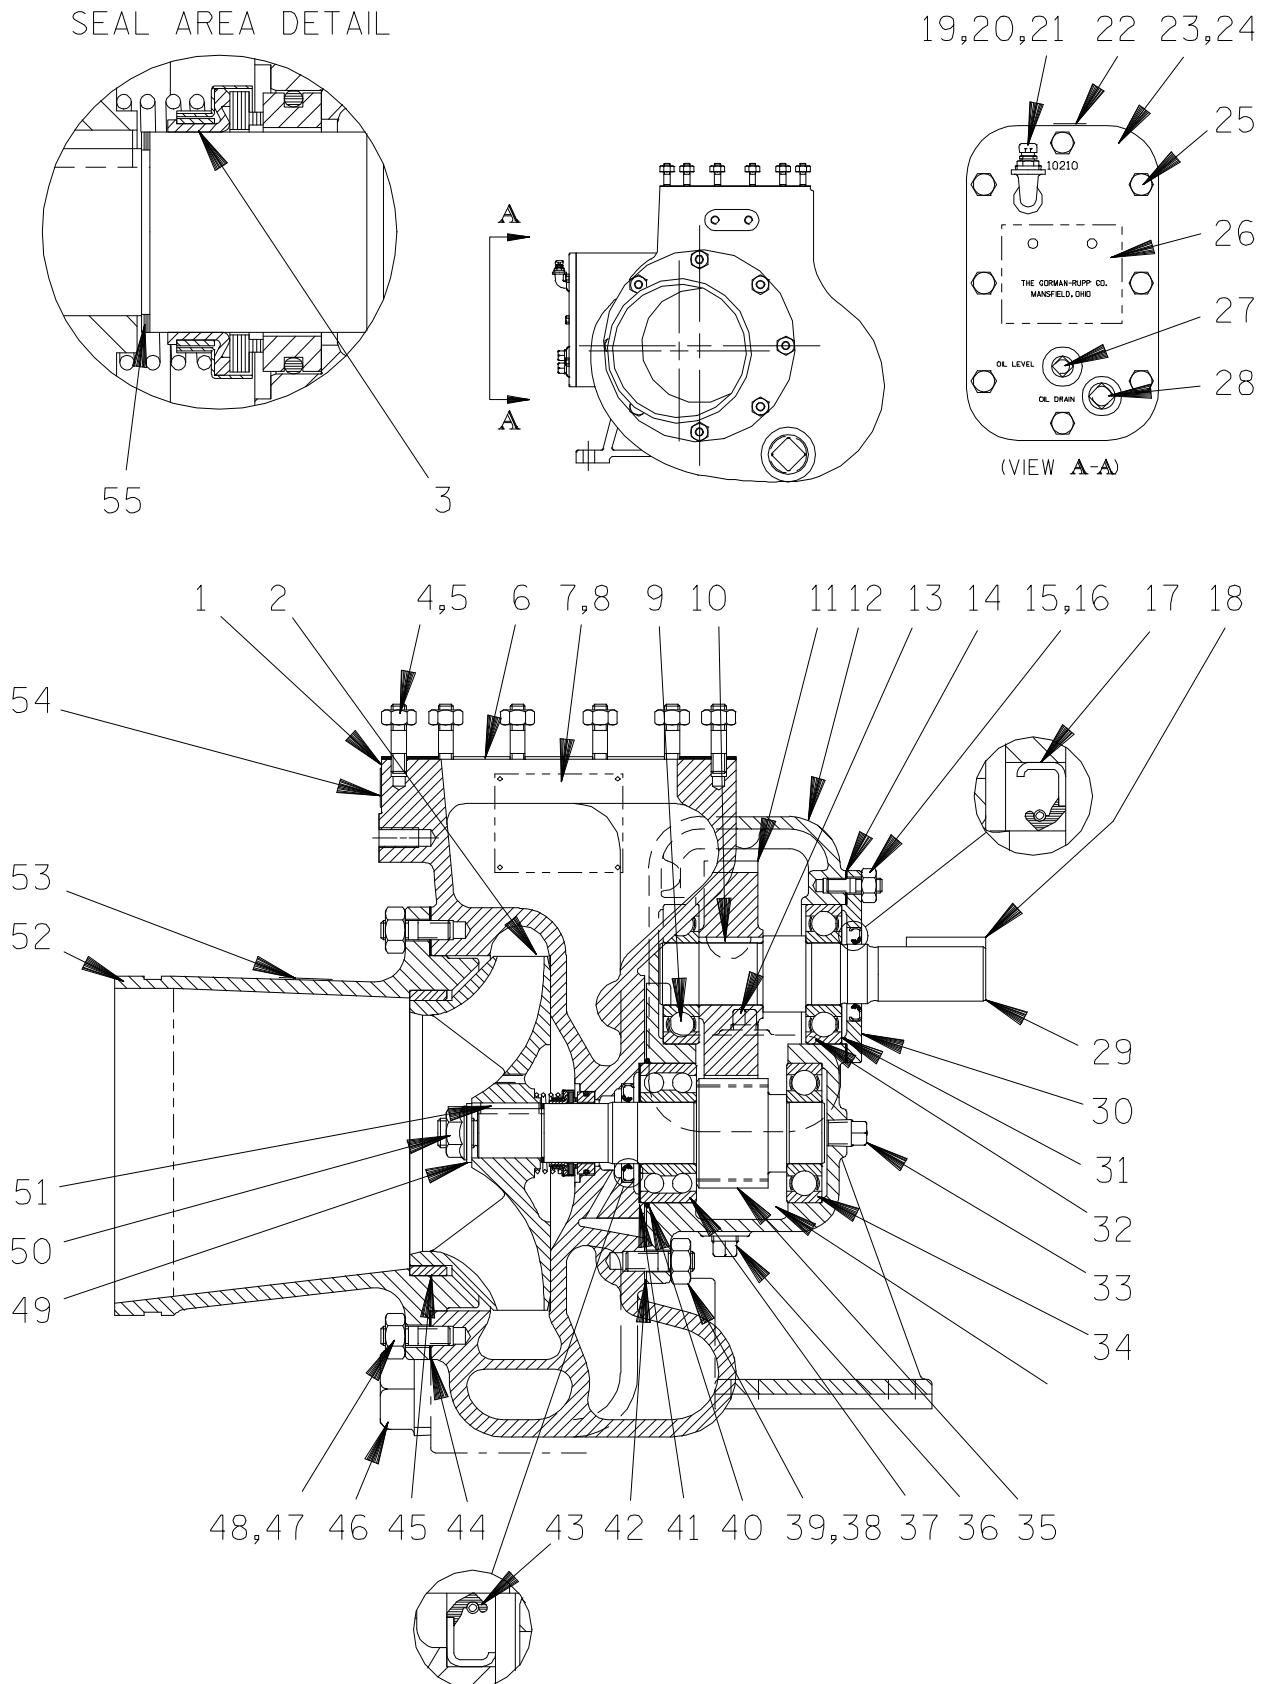

Figure 1. Pump Model 08C1-GA
This pump requires little service due to its rugged, minimum-maintenance design. However, if it becomes necessary to inspect or replace the wearing parts, follow these instructions which are keyed to the sectional view (see Figure 1) and the accompanying parts list.
Position the oil seal (43) in the casing bore with the lip positioned as shown in Figure 1. Press the oil seal into the bore until fully seated against the bore shoulder.
(Figures 1 and 2)
(Figures 1 and 4)